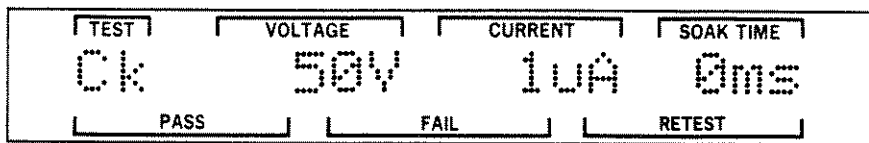

Figure 3-88. Check Test Screen
STEP 7. Press the LEFT pushbutton (several times, if necessary) until the Check test screen is displayed. Figure 3-88 is an illustration of this screen.